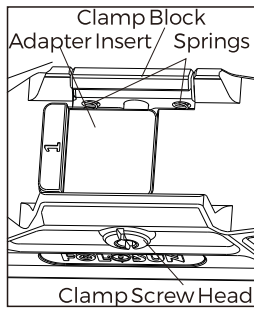

Fig 4
- 4) While pushing forward on the P.ID/P.ID-HC (toward the firearm muzzle), turn the clamp screw head clockwise completely until the P.ID/P.ID-HC is tightened securely and there is no movement. See Fig 4.